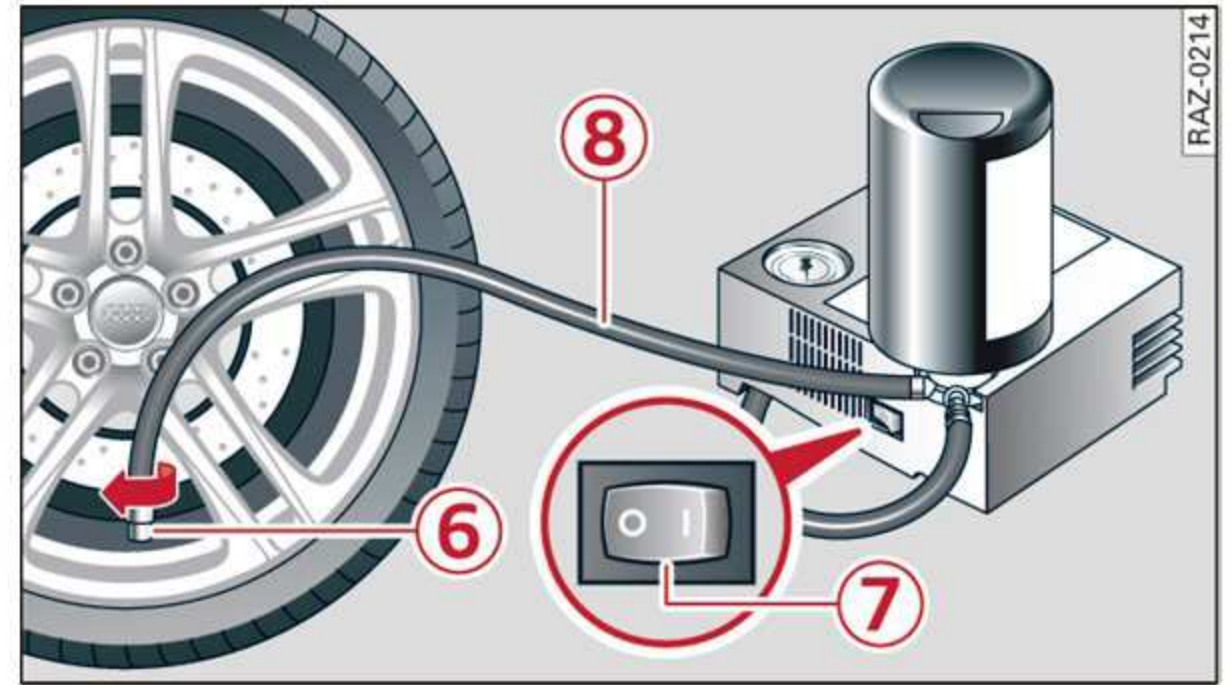

Fig. 188 Diagram: tire mobility kit connection
- ▶ Remove the connector (3) and pressure hose (4) from the bottom of the housing.
- ▶ Connect the compressor pressure hose (4)¹⁾ to the flange (5) on the tire sealant bottle (1).
- ▶ Insert the sealant bottle with the flange at the bottom into the opening (2) on the top of the compressor housing.
- ▶ Connect the filler hose (8) to the valve (6) ⇒ fig. 188.
- ▶ Move the switch (7) ⇒ fig. 188 on the compressor into position **I**.